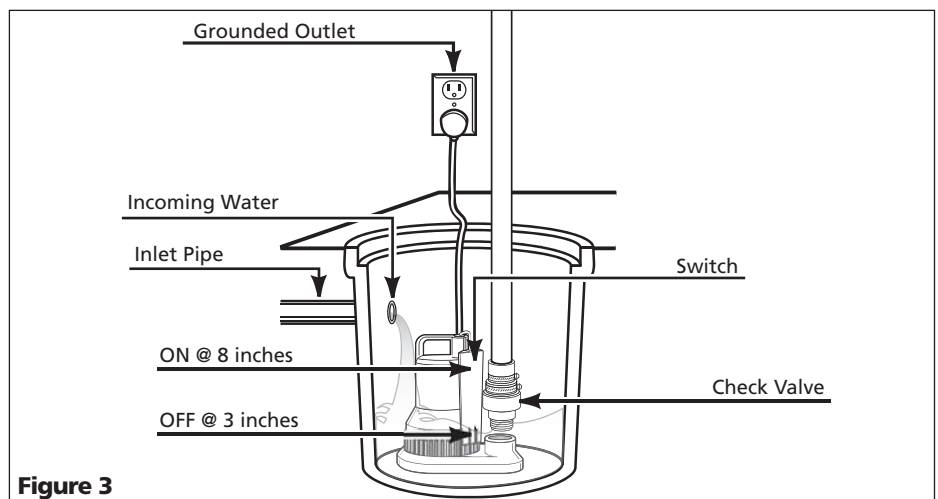

Figure 3
7. **FOR BWSCAP MODELS ONLY:** Position pump switch AWAY from the inlet so switch is clear from incoming water (See Figure 3).